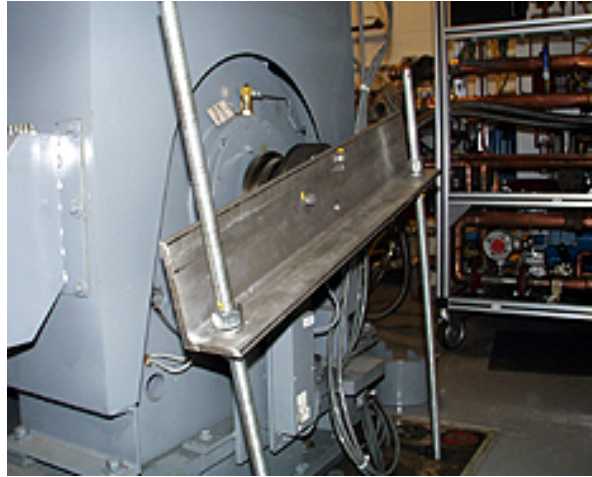

Figure 4
| Figure 4 Dyno Lockdown Fixture | 5 |
- 110 In the test cell, attach the dyno lock down fixture to the back of the dynamometer shaft to prevent shaft rotation. Attach two bolts to the hub and adjust the threaded rods. See Figure 4.